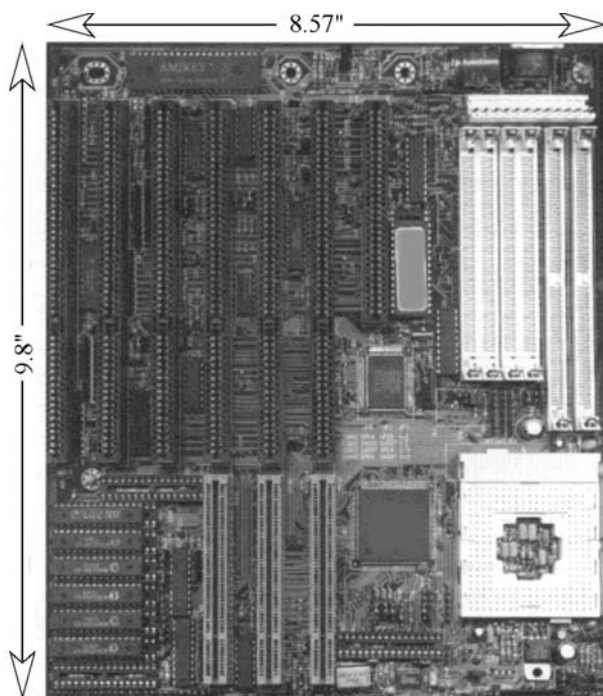

Figure 12.1 The outline of a Baby AT board
2. If the motherboard will not take a faster processor, the case may be usable if it will take one of the Baby AT sized boards that were in use a few years ago. Figure 12.1 shows the outline of a classic Baby AT board, and if this looks as if it would fit into your casing, then it will be possible to upgrade with a new motherboard. The point here is that the older types of motherboards had the processors soldered into place, so that there is no possibility of replacing the processor in such a motherboard.